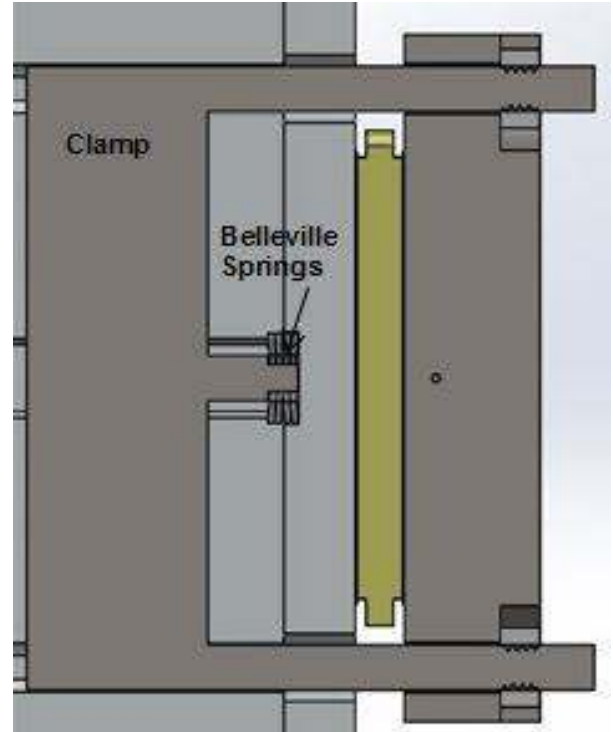

Figure 7: Compression assembly
13. Careful attention must be paid to the clamping system to ensure that the load is evenly distributed. If there is too much force on a small area bowing will occur, which will prevent proper heat transfer and may damage the module. Combining the Belleville springs with a clamp that applies pressure to the center of the module, as shown in **Figure 7**, is a good way to prevent bowing.